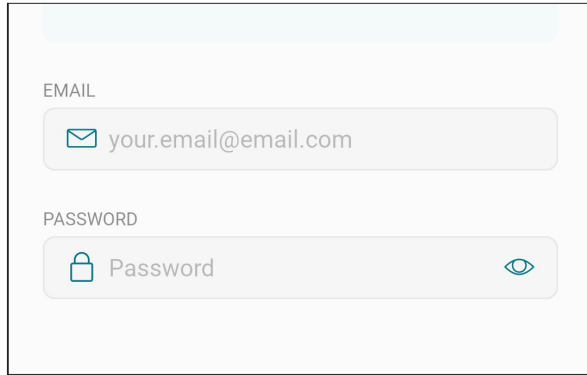

Figure 76. Log in the Raymote Mobile App
3. Open the Raymote mobile app and log in with your user name and password. See **Figure 76**.